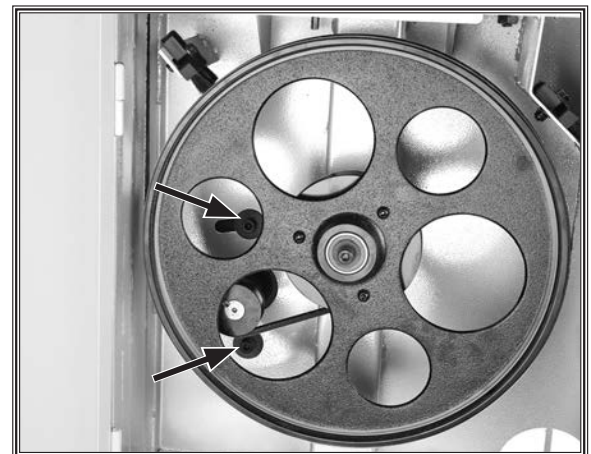

Figure 90. Location of motor mount cap screws.
4. Loosen both motor mount cap screws (see **Figure 90**).